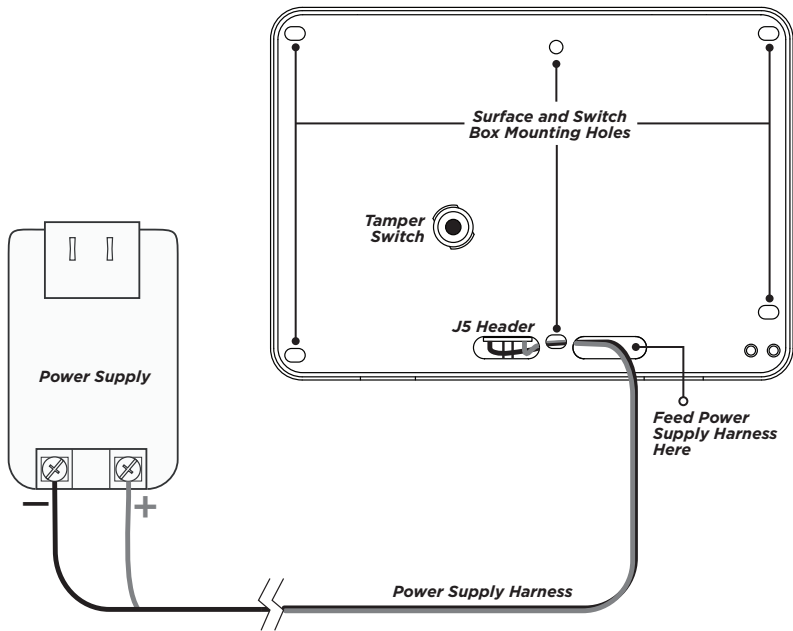

Figure 1: Install the 9862 Keypad
1. Feed the power supply harness through the case. See Figure 1. Do not connect the power supply harness to the J5 header on the keypad.